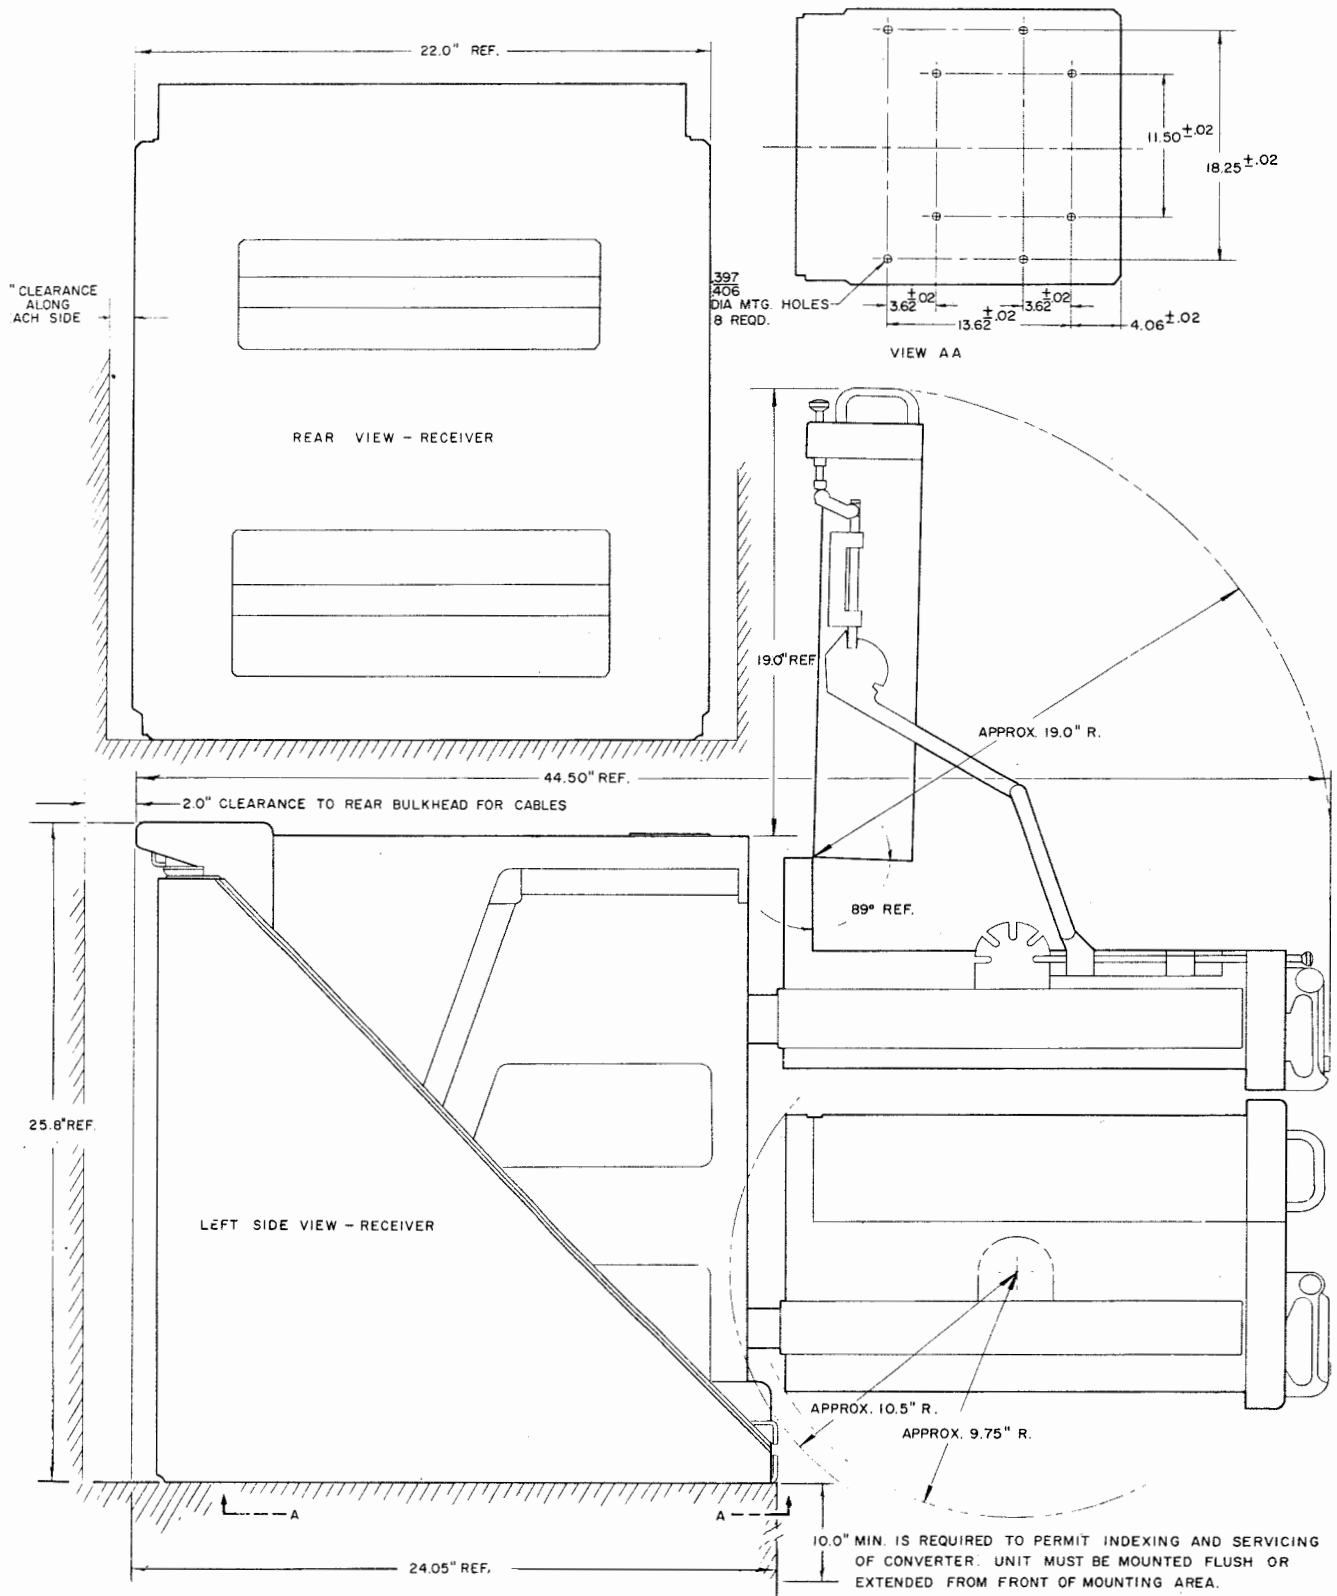

Figure 2-1. Radio Receiving Set AN/WRR-2, Outline Drawing
d. SERVICE ACCESS. (See figures 2-1 and 2-2.)—The receivers are designed to permit most servicing to be done from the front. Slide and tilt mechanisms allow the drawers to be pulled out from their cabinets and tilted to various angles. The operation of these mechanisms is described in detail in paragraph 2-4.
(2) RELAY RACK MIL-STD-189.—The cabinet structures for the AN/FRR-59 have been adapted for mounting in a MIL-STD-189 relay rack by the addition of flange plates. Select a location within the rack which provides the clearances mentioned in paragraph 2-3d and shown in figures 2-1 and 2-2. Fasten the empty cabinet structure in place, using 16 oval-head screws